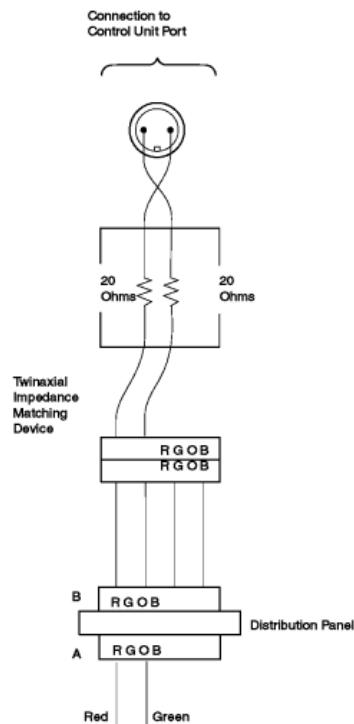

Figure 66. Testing Cable Drop from the Distribution Panel to the Control Unit
2. Go to the distribution panel and do the following steps using Figure 66: